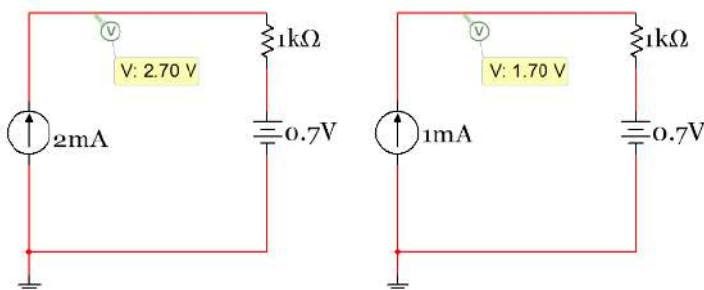
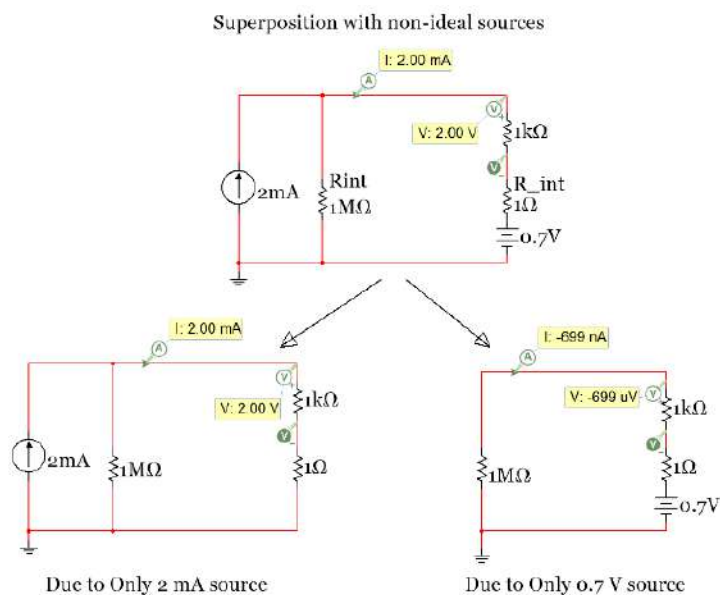
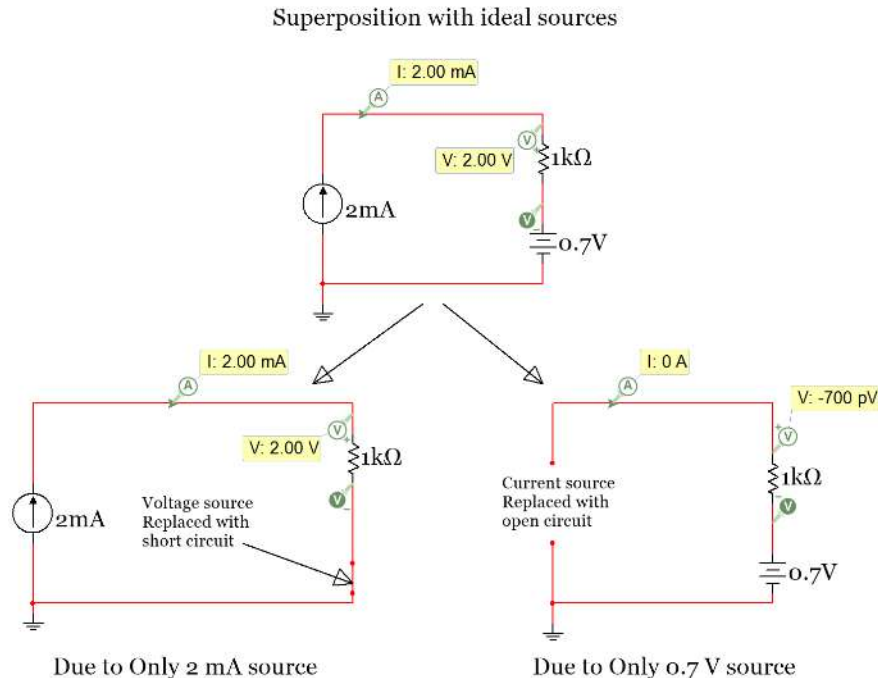

Figure 2.32: Example of a linear system - Circuit with a resistor and a diode that is replaced with a battery.
Figure 2.33: Example of Superposition with Non-Ideal Sources - The 0.7V battery has a negligible effect
Figure 2.34: Example of Superposition with Ideal Sources
using Newton's 2nd Law all of the forces acting on the mechanical body result in the body having a net acceleration. If the system is linear then superposition can be used where the acceleration due to each individual force is calculated one at a time. All of the individual accelerations could then be added together and the resulting total acceleration that results would be the same as solving the system all in one step with all forces in the same calculation. This same process can also be used for independent sources in electrical linear systems. The only thing that complicates the superposition procedure for linear circuits is what to do with the "other sources" that are physically connected to the circuit as you solve the circuit one source at a time. If the sources are **not ideal** then the "other sources" are replaced with their internal resistance. Recall in Figure 1.3 of Module 1 that a non-ideal voltage source is modeled as a battery in series with a small resistor. This small resistor (called R_{int}) is the internal resistance. A non-ideal current source is modeled as a large resistor in parallel with the current source. If the sources of the circuit in Figure 2.32 are replaced with a non-ideal current source with internal resistance of $1\text{ M}\Omega$ for the current source and $1\text{ }\Omega$ in series to transform the ideal voltage source to a non-ideal voltage source, the results are shown in the top circuit in Figure 2.33. The voltage across the $1\text{ k}\Omega$ resistor is approximately 2 V , which is the same value as obtained in the circuit in Figure 2.32 with ideal sources. The value is approximately the same because the values of R_{int} in this case for the current and voltage sources have minimal effect on the circuit.
For sub-problem 1 (on the left side of Figure 2.33) the voltage source must be "zeroed out" and for sub-problem 2 (on the right side of Figure 2.33) the current source must be "zeroed out" so that only the internal resistance remains for both. To zero out an independent source the following is done:
The **magnitude** of the voltage and current of the 1 k Ω resistor in the bottom-left circuit in Figure 2.33 due to only the 2 mA current source (sub-problem 1) can be calculated as follows:
- $I_{1k\Omega_1} = \mathbf{2\text{ mA}}$ because the source forces 2mA through the loop (verified by Multisim in Figure 2.33).
- $V_{1k\Omega_1} = I_{1k\Omega_1} \cdot 1\text{ k}\Omega = 2\text{ mA} \cdot 1\text{ k}\Omega = \mathbf{2\text{ V}}$ (as verified by Multisim in Figure 2.33).
In this example the 0.7 V has very little effect on current or voltage through the 1 k Ω resistor since there is a 1 M Ω resistance in the circuit. The **magnitude** of the voltage and current of the 1 k Ω resistor in the bottom-right circuit in Figure 2.33 Due to only the 0.7 V voltage source (sub-problem 2) can be calculated as follows:
- $I_{1k\Omega_2} = (0.7\text{ V}) / (1\text{ M}\Omega + 1\text{ k}\Omega + 1\text{ }\Omega) = 6.99\text{E-}7\text{ A}$ or **699 nA** (as verified by Multisim in Figure 2.33).
- $V_{1k\Omega_2} = I_{1k\Omega_2} \cdot 1\text{ k}\Omega = 699\text{ nA} \cdot 1\text{ k}\Omega = 6.99\text{ E-}4$ or **699 μ V** (as verified by Multisim in Figure 2.33).
- $I_{1k\Omega} = I_{1k\Omega_1} + I_{1k\Omega_2} = 2\text{ mA} - 699\text{ nA} = \mathbf{1.9993\text{ mA}}$ (rounded to 2 mA in Multisim, top circuit in Fig 2.33)
- $V_{1k\Omega} = V_{1k\Omega_1} + V_{1k\Omega_2} = 2\text{ V} - 699\text{ }\mu\text{V} = \mathbf{1.9993\text{ V}}$ (rounded to 2 V in Multisim, top circuit in Fig 2.33)
In this course we will only deal with Ideal independent sources so the internal resistance doesn't have to be included. For ideal voltage sources the internal resistance is zero (replace R_{int} in Figure 2.33 with a short circuit) and for ideal current sources the internal resistance is infinity (replace R_{int} in Figure 2.33 with an open circuit). If the sources in the circuit in Figure 2.33 are **ideal** then Figure 2.34 shows how the circuit would look and how the circuits for the 2 sub-problems would look.
- $I_{1k\Omega} = I_{1k\Omega_1} + I_{1k\Omega_2} = 2 \text{ mA} - 0 \text{ A} = \mathbf{2.0 \text{ mA}}$ (Matches top circuit in Fig 2.34)
- $V_{1k\Omega} = V_{1k\Omega_1} + V_{1k\Omega_2} = 2 \text{ V} - 0 \text{ V} = \mathbf{2.0 \text{ V}}$ (Matches top circuit in Fig 2.34)